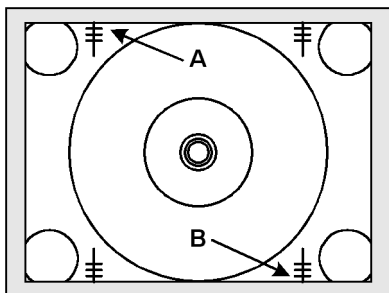

Figure 24. Vertical Size
1. In the Service Mode, select the Vertical Size Adjustment DAC (C6). Adjust until a perfect circle appears (Upper and lower sections of circle may extend beyond the screen and therefore not visible). See Fig. 24.